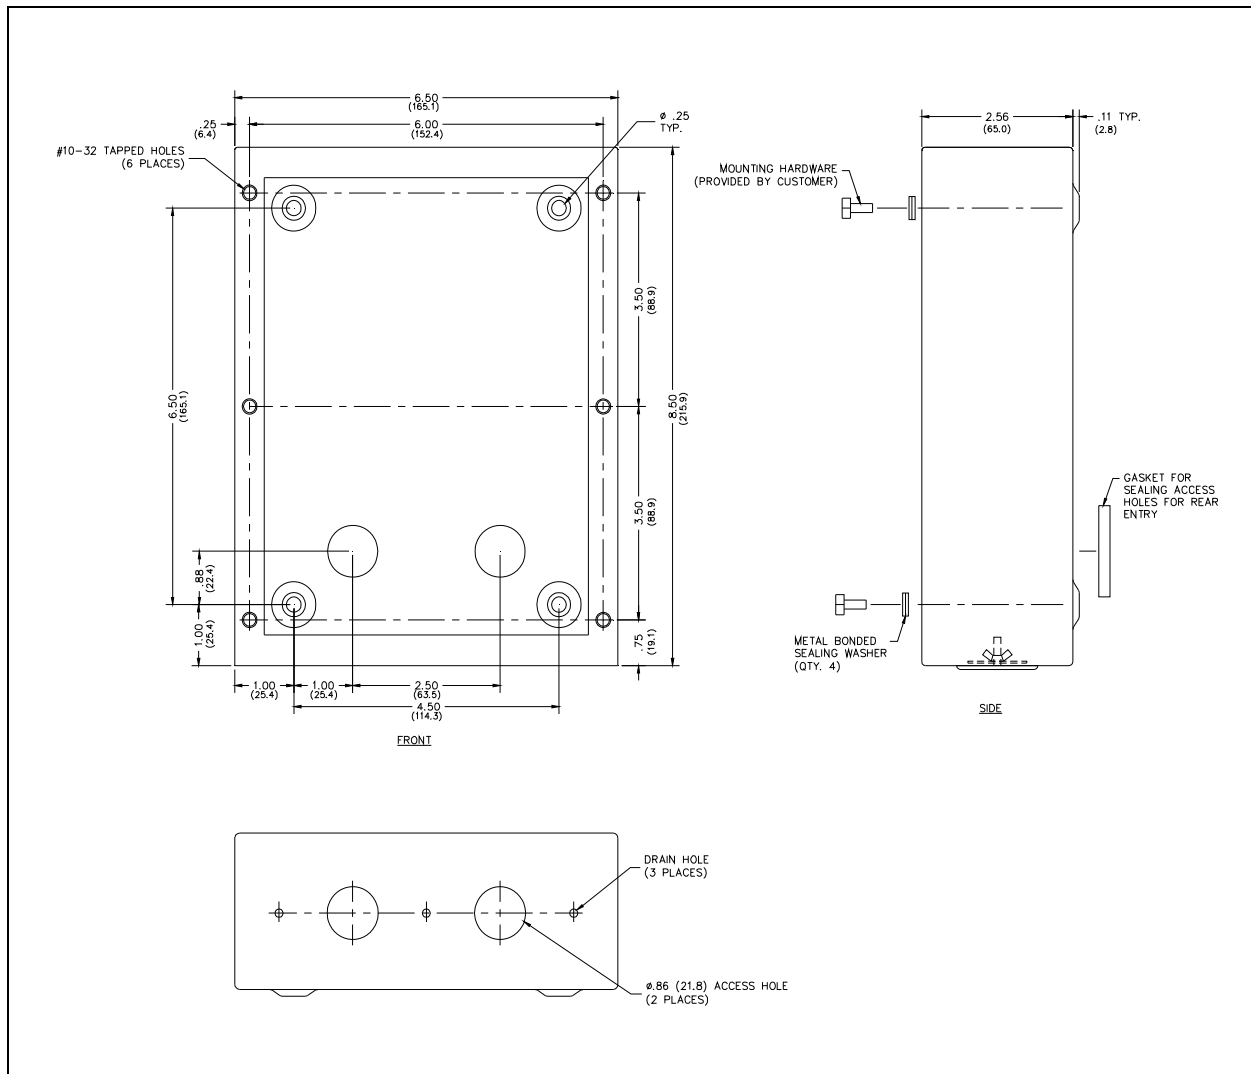

Figure 2. Model 238-001FS Surface-Mount Enclosure Outline
2. Mount the enclosure on a flat wall surface using the four ¼ inch (0.25 in) diameter mounting holes as shown in Figure 2. Four #10 stainless steel/neoprene washers are provided to ensure sealing. Additional mounting hardware is not included.